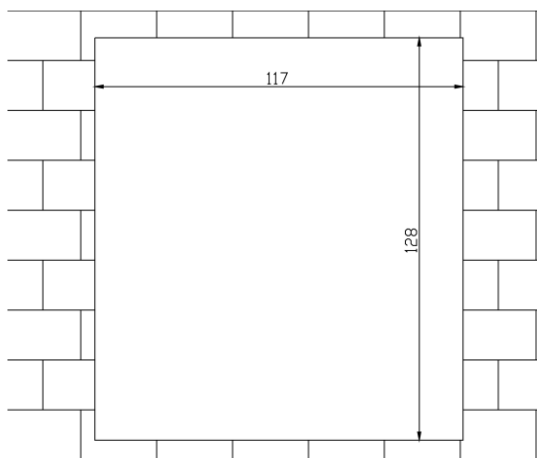

Figure 1
- Step 1. Dig a hole on wall, its dimension is 117*128*80(mm). See Figure 1